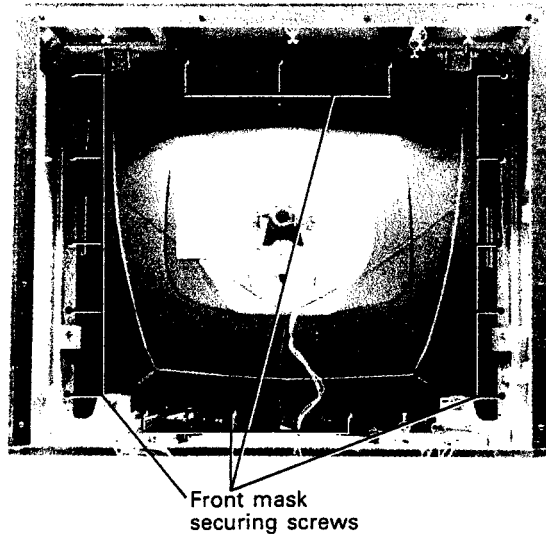

Fig. 15-4
8. Remove the screws securing the FRONT-MASK and remove the FRONT-MASK. (Fig. 15-4)